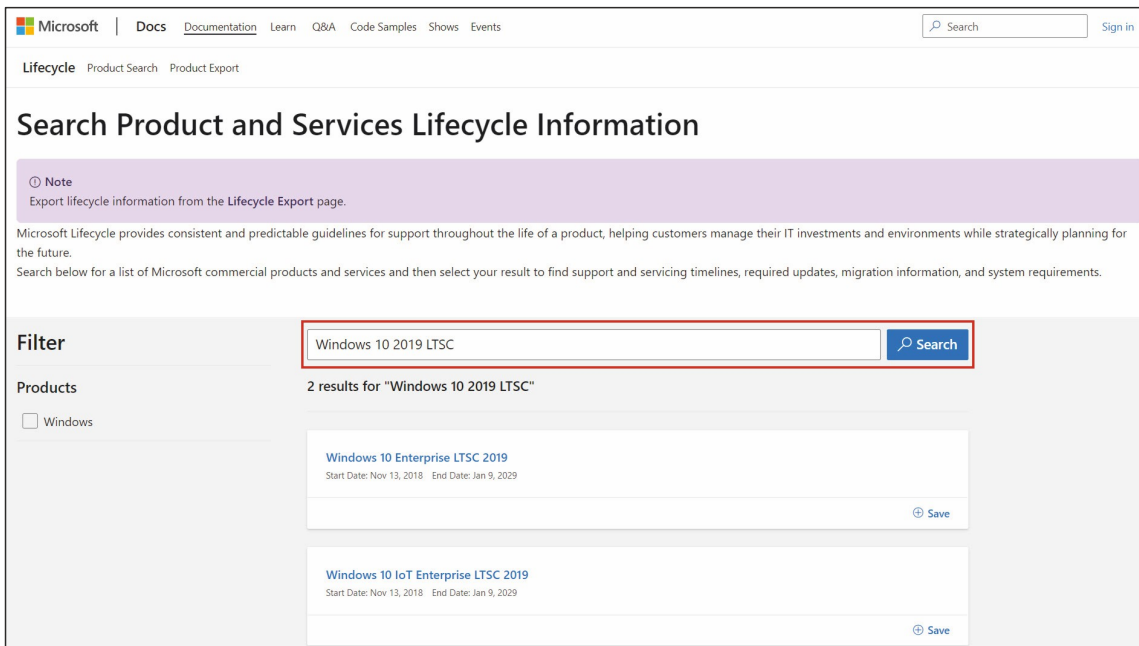

Fig. 3: Search for operating system
2. Search for your operating system (see fig. 3).